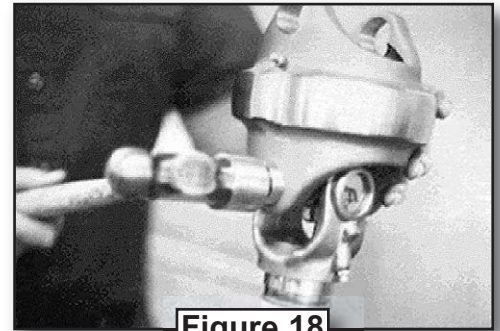

Figure 18
17. Use the cross trunnion as a pilot. Start the new bearing cup on the cross and into the opening in the center housing. Push the cross into the bearing cup while driving the trunnions of the cross parallel with the openings for the bearing cups. Hit the bearing cup lightly with a hammer. Using the vise, drive the bearing cup into the yoke until the bearing cup is flush with the yoke ear (see *Figure 18*).